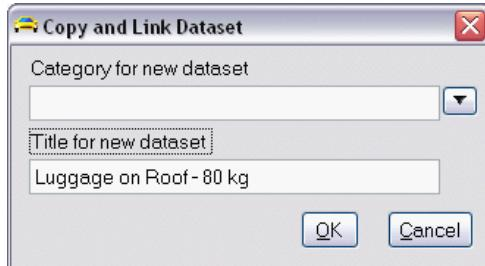
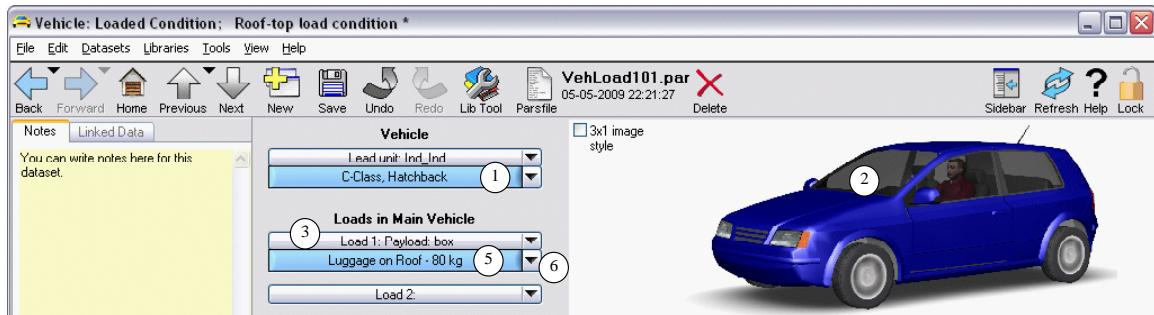
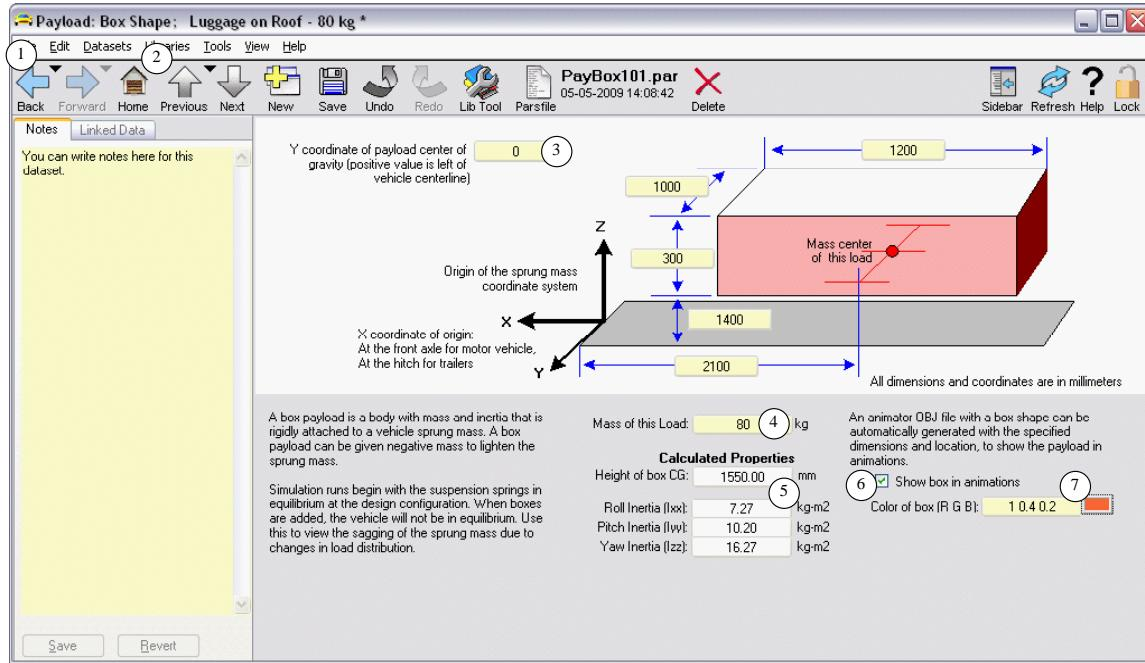

Figure 33. Name the new payload dataset.
Figure 34. The **Vehicle: Loaded Condition** screen with links for a vehicle and payload.
Figure 35. The newly created rectangular payload dataset.
6. Use the drop-down library control ③ to select the **Payload: Box Shape** library ④. This action should immediately display more controls underneath to access a payload dataset. (Figure 34 shows the appearance of the screen after step 7.)
7. Use the drop-down dataset control for the payload ⑥ and choose the option to **Link to New Dataset**. This brings up a dialog box asking for the name and category to be given to the newly created dataset (Figure 33). Enter the title Luggage on Roof – 80 kg, and click the **OK** button. The **Vehicle: Loaded** screen now shows a link to this new dataset (Figure 34).
8. Click the blue link button ⑤ (Figure 34) to view the newly created dataset (Figure 35). The yellow fields are initially all blank.